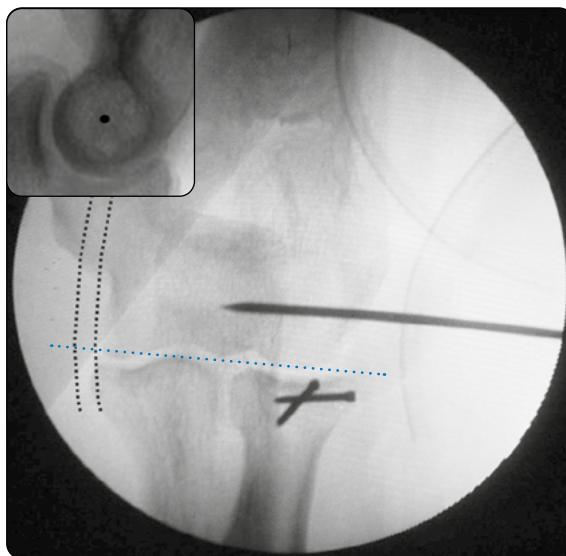

Fig. 15
13) With the K-wire at the entry point of the bone, the K-wire is then drilled approx. 4cm into the bone, along the joint axis both in the lateral and AP view (Fig. 15).